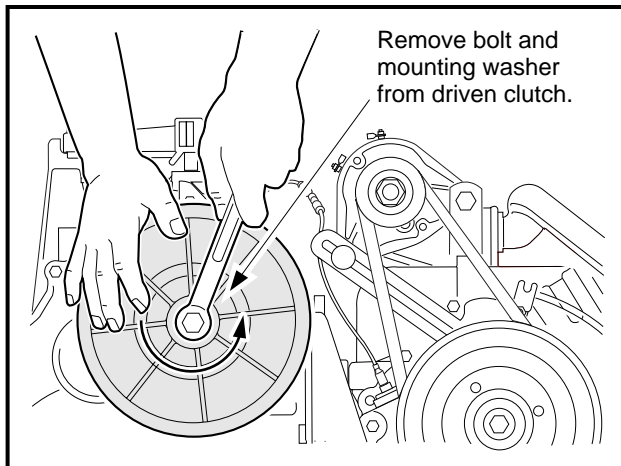

Figure 16-29 Driven Clutch
16. Remove the driven clutch retaining bolt and remove the driven clutch from the unitized transaxle (**Figure 16-29, Page 16-13**).